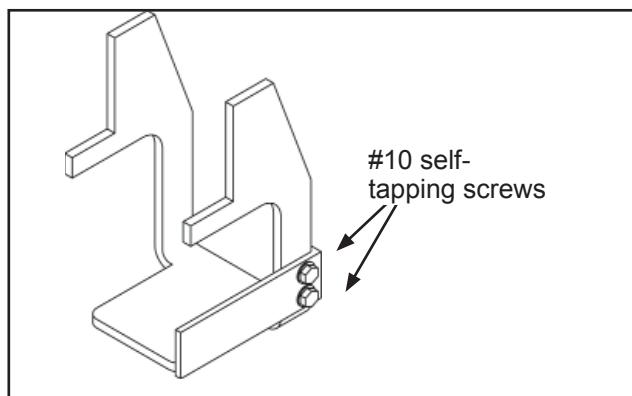

Figure 9
9. Using two #10 HWH self-tapping screws (included in Repair Kit A), attach Bracket 2 to the movable generator latch mounting pad using the pilot holes drilled in the previous step. See Figure 9.